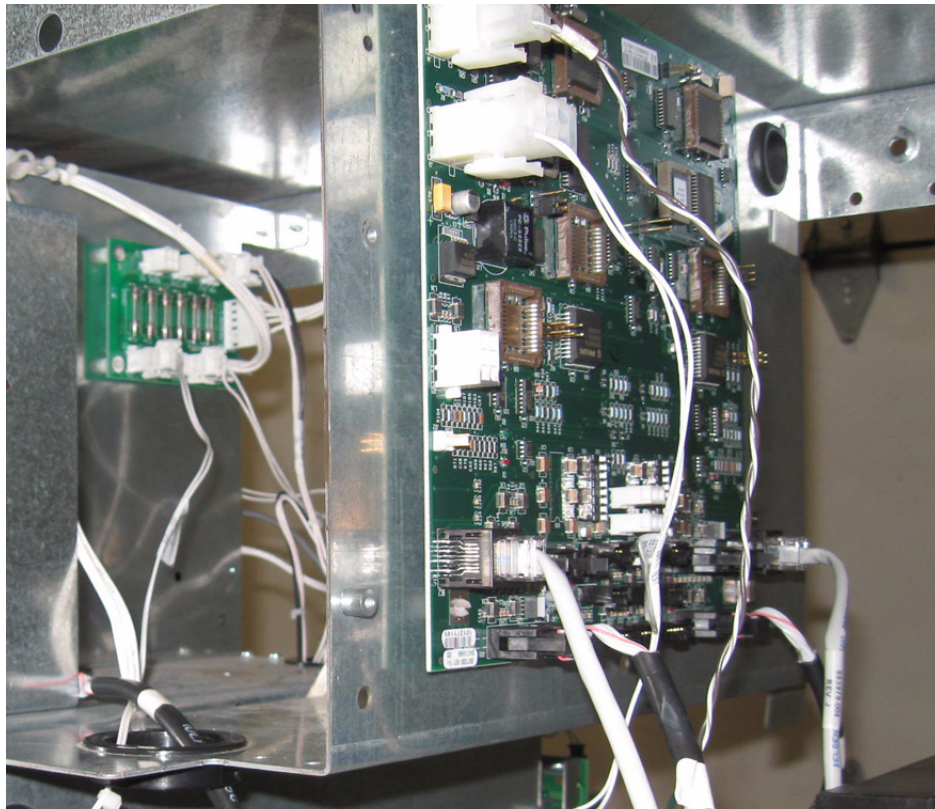

FIGURE 3
- A. Remove existing bezel hinges on the dispenser, see Figure 3. Discard hinges and save hardware. New hardware provided if needed.